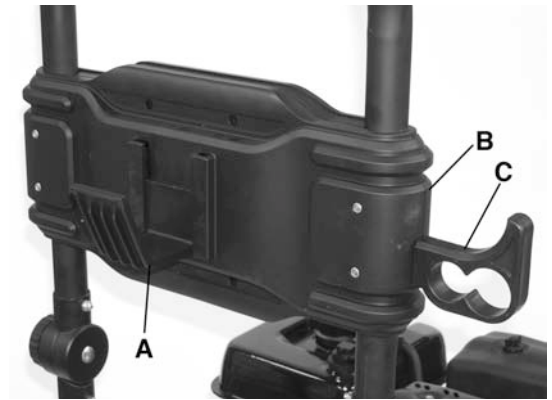

Figure 2
Slide the hose hook (A) Fig.2 into the slot at the rear of the panel (B). Slide the wand holster (C) into the slot on the side of the panel (B).